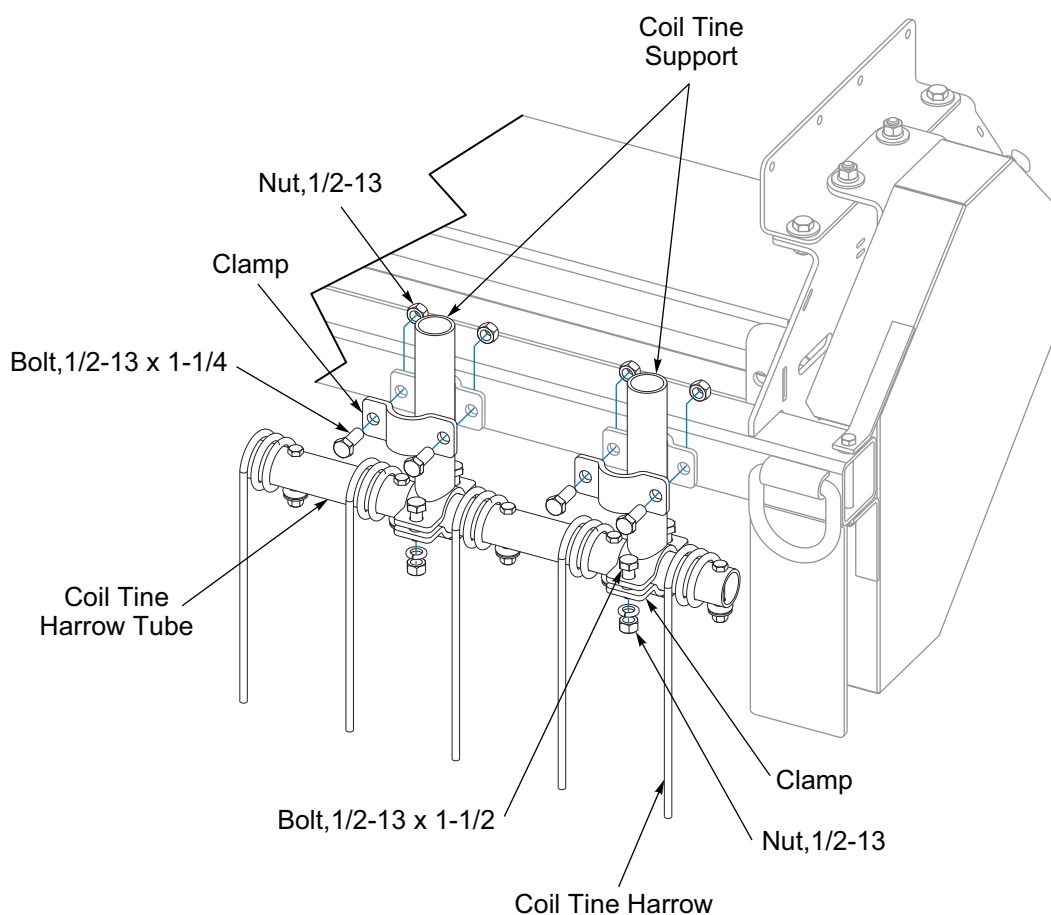

Figure 3-16: Track Remover - Optional
1. Loosen the Clamp Bolts that secure the Coil Tine Supports. **See Figure 3-16.**
1. Loosen the Clamp Bolts that secure the Coil Tine Harrow Tube to the Coil Tine Supports. **See Figure 3-16.**